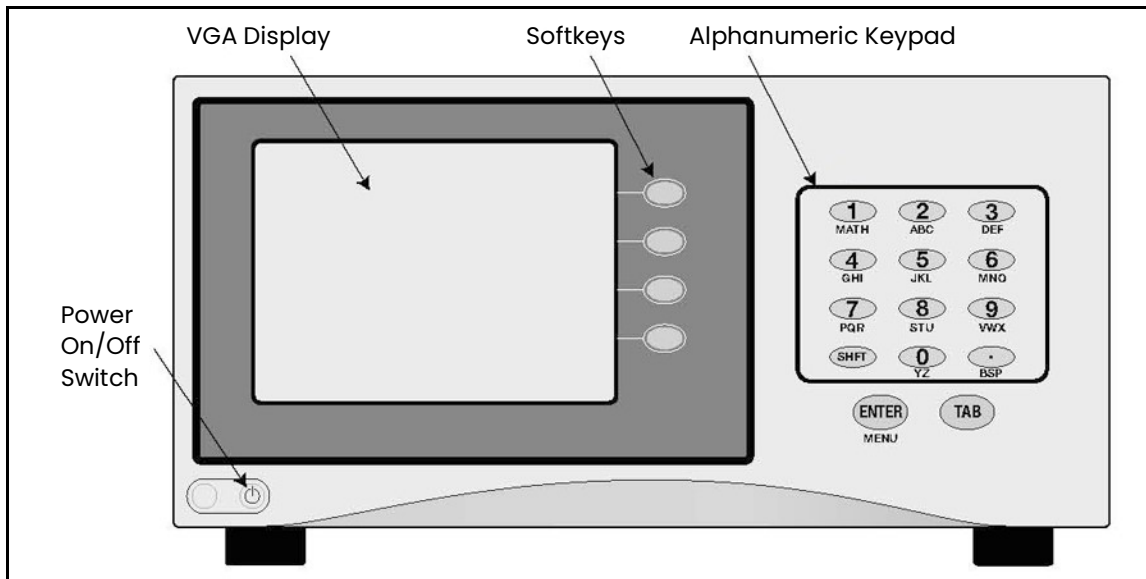

Figure 1: Optica Benchtop Version with VGA Display
The Optica front panel is shown in *Figure 1* below. The panel includes: a display, an alphanumeric keypad for data entry, ENTER and TAB keys, and four softkeys to the right of the display screen.
- A high-resolution, full-color, liquid crystal display (LCD) with data graphing and on-screen programming capability (referred to as the "VGA" unit). See *Figure 1* below.